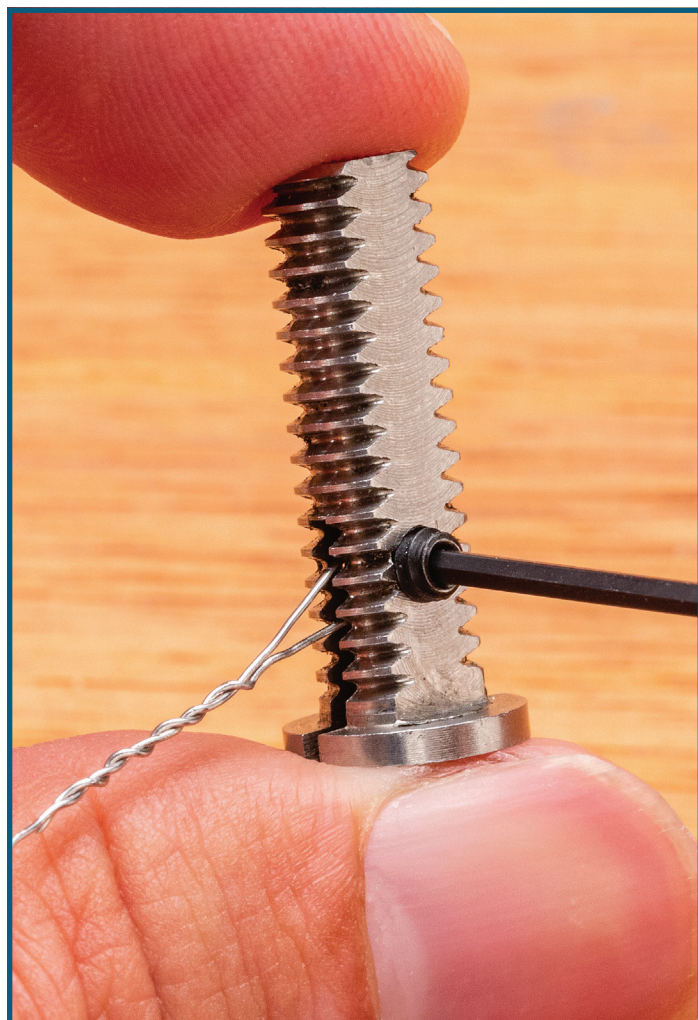

Fig. 2
2. Use the included hex key to loosen the set screw on the wire tensioning anchor and fit the looped end of one of the cutting wires into the slot in the anchor. Position the loop so that the set screw will go through the middle of it and then tighten the set screw. **Fig. 2**.